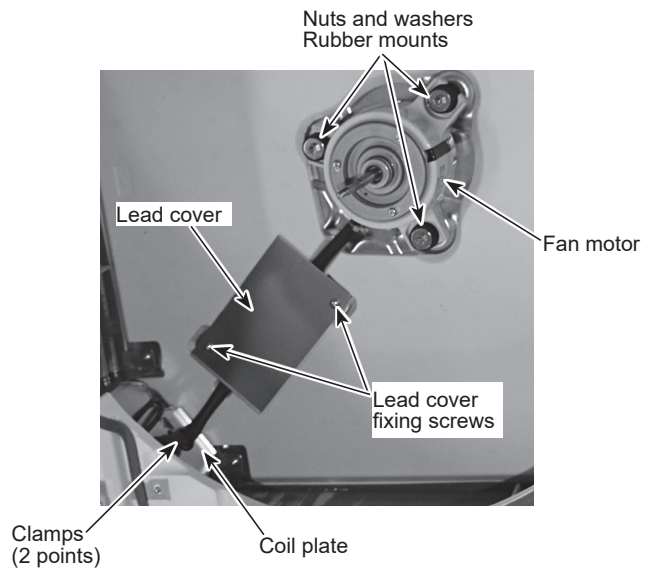

Figure 4
- (1) Remove the electrical box fixing cover. (See Photo 1)
- (2) Disconnect the connector for vane motor (CNV: White). (Refer to procedure 5)
- (3) Loosen the 4 corner panel fixing screws (tapping screw 4×16). (See Figure 4)
- (4) Slide the corner panel to the direction of the arrow 1, and remove the corner panel. (See Figure 4)
- (5) Remove the 4 installation screws (M5×28). (See Photo 11)
- (6) Release the 2 temporary hanging hooks to remove the grille. (See Photo 12)